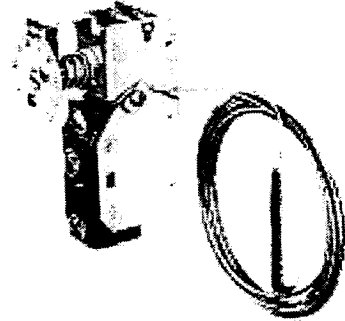

Fig. 1 -- A19 Temperature Control
4. Calibrated dial and pointer, with factory adjustable (not field) low cutout or high cutout stops when specified (Figs. 1 and 2).